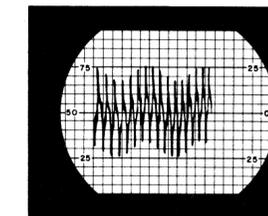

Figure 3.
- (2) Adjust the 1000 Hz input signal to the transmitter audio input to 1 volt.
- (3) With this input signal level, adjust the IDC control on the transmitter to provide a 10-square (maximum limit) peak-to-peak recovered signal on the oscilloscope. This is equivalent to  $\pm 5$  kHz deviation (preceding the tripler; see figure 3) or  $\pm 15$  kHz deviation of the actual carrier.